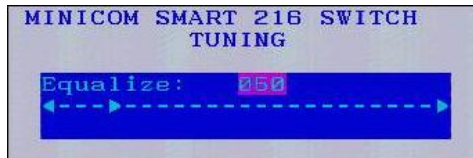

Figure 42 Image Tuning label
2. Press **F5**. The screen image of the selected computer appears, together with the Image Tuning label, see Figure 42.